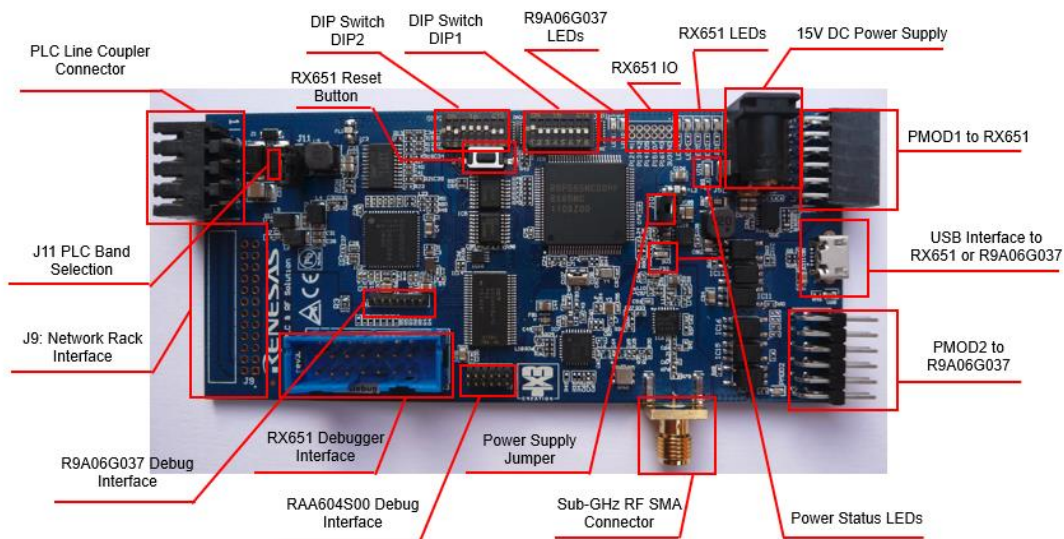

Figure 8. Y-G-HYBRID-PLC-RF Board Overview
- 2 Pin Euro Plug to Figure 8 (C7) Power Cable Euro to IEC 60320 C7